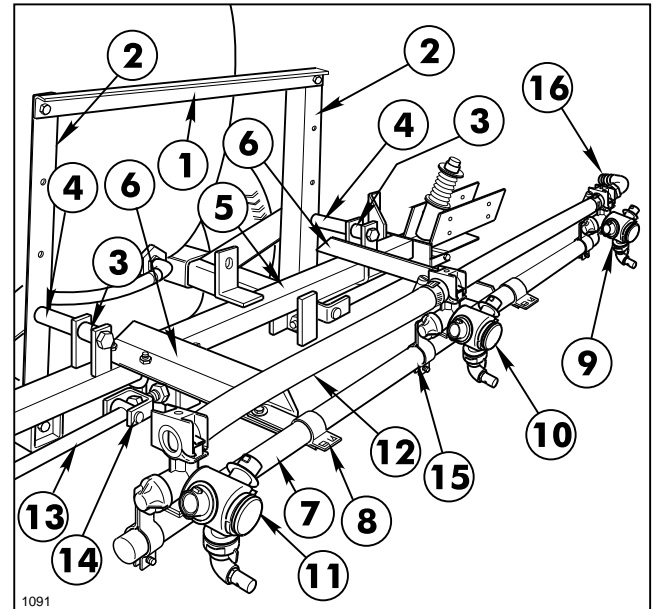

FIG. 7
3. Position the Spacer Tubes between the Boom Mount uprights and the lugs on the Main Frame Tube. Use two 1/2" x 4" hex hd cap screws and lock nuts to secure the Main Frame Tube to the uprights. See FIG. 7.
5. Position the two Center Boom Angles on the Main Frame Tube as shown in FIG. 7 and secure them to the Frame Tube with 2 square "U"-bolts, flat washers, and lock nuts.
7. Loosely attach the Double Barb Turret Assembly in the approximate center of the Center Boom Pipe. For the most uniform spray coverage, position all Assemblies as shown in FIG. 7. Tighten clamp screw to secure the Nozzle to the Boom Pipe.
9. Attach the two Strut Assemblies to the two adjustable clevises found on each side of the Main Frame tube with two (2) 1/2" x 2" clevis pins and two (2) 1/8" x 1" cotter pins. See FIG. 7.
13. Adjust the Booms to a level position by adjusting the jam nuts on the adjustable clevis assemblies (see FIG. 7) to the desired position, then tighten the jam nuts against the Main Frame plate.